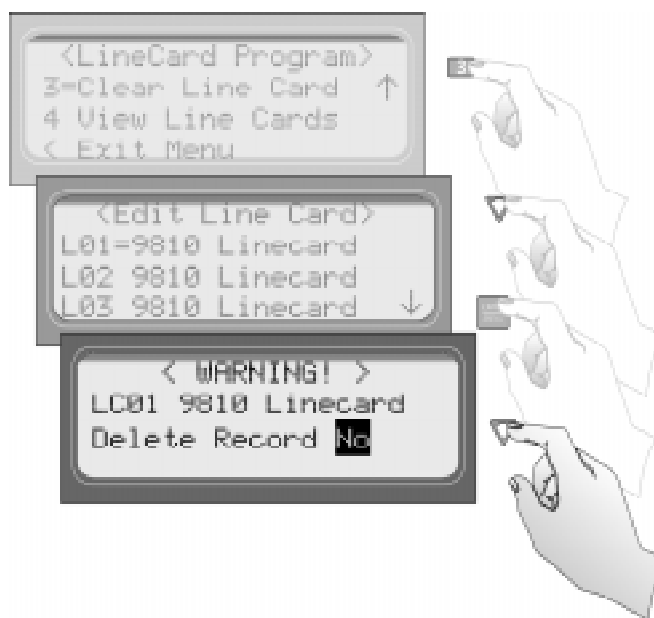

Figure 5-19 Visual Steps to Clear a Line Card From the Receiver
3. When display shows the list of line cards (see Figure 5-19) press the  until the desired line card is highlighted with an equal sign.
3. When display shows the list of line cards (see Figure 5-19) press the  to scroll through the list of line cards.